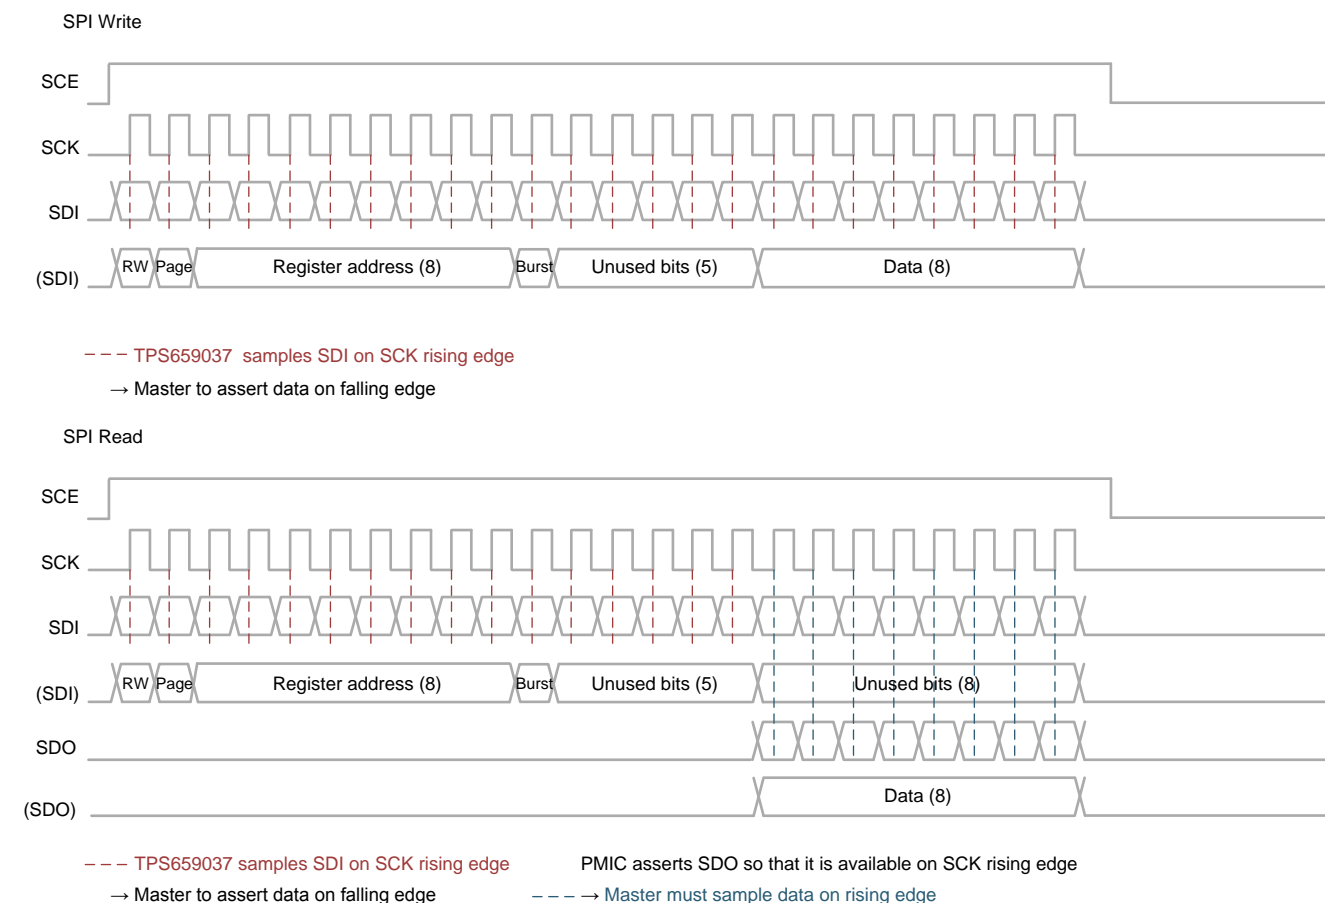

Figure 5-15. SPI Single Read and Write Access
- This consists of fetching and storing one single data location. The protocol is depicted in Figure 5-15.